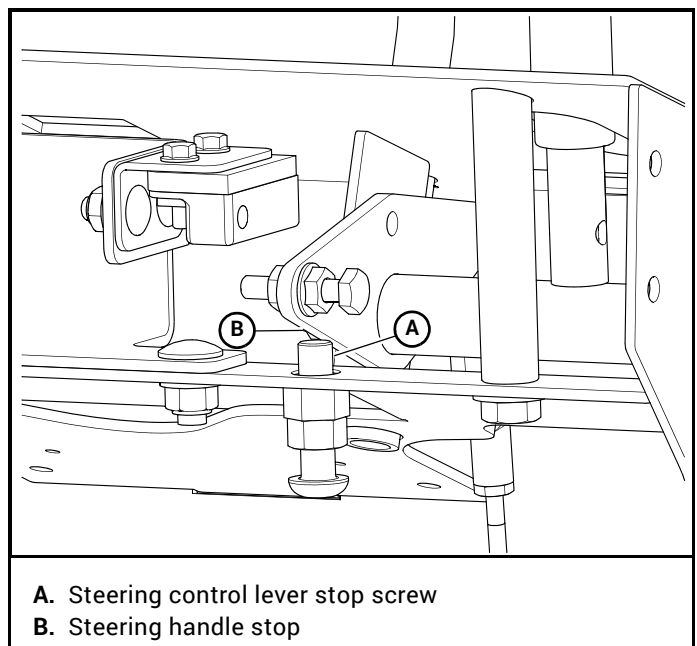

Figure 4-5
4. Loosen the jam nut on the steering control lever stop screw. Figure 4-5
5. Turn the steering control lever stop screw until it makes contact with the steering handle stop. Then, turn it an additional 1/4 turn. Tighten the jam nut. Figure 4-5